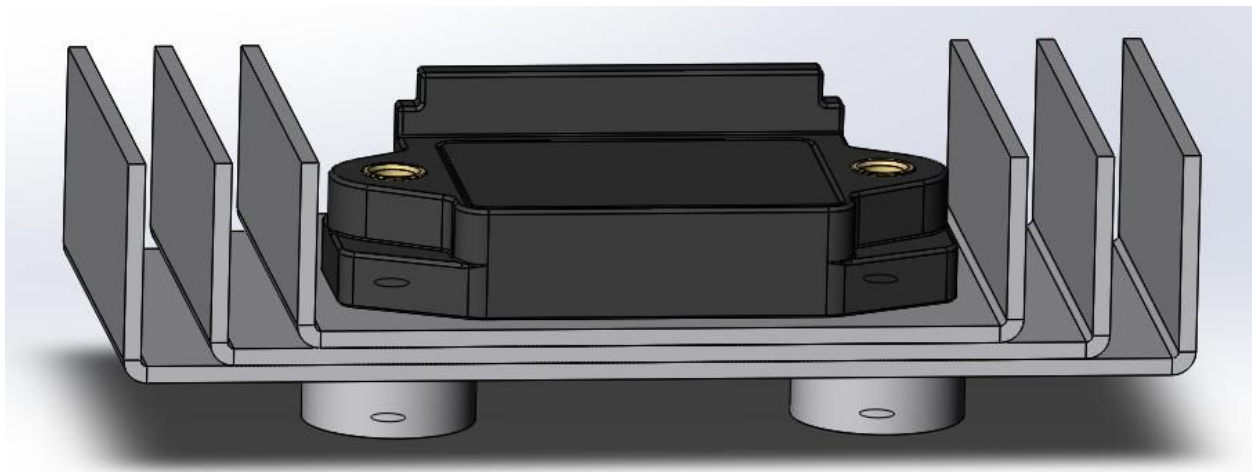

Figure 3.2.1: An example heatsink made from aluminium sheet.
- b. Source a heat sink with at least 64 cm² (10 in²) single side surface area (aluminium). The ignition module can overheat and subsequently fail when adequate cooling is not provided. Layers of sheet aluminum can be used (2 - 3 mm thick, for reference, see **Figure 3.2.1**).